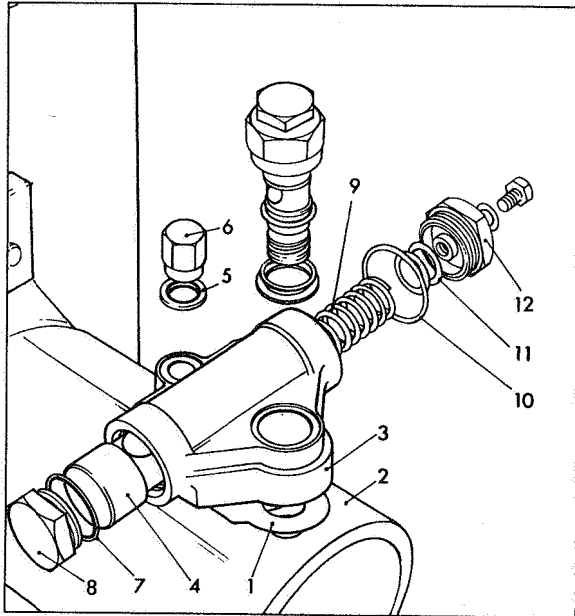

Fig 22 Assembling auto advance device
Offer up new housing gasket (1) Fig 22 to pump housing (2). Inspect piston housing (3) to ensure that blank end of piston (4) is towards the oil feed drilling end of piston housing. Assemble the housing and piston assembly to the pump housing, ensuring that the cam advance screw engages in the piston and lightly secure the assembly in place with cap nut washer (5) and cap nut (6).